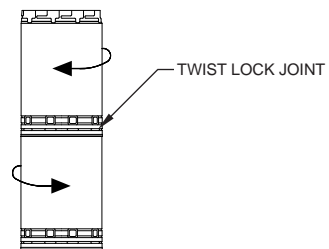

FIG. 3a
6. Install Temp Guard chimney sections starting at the TGCSP. Secure the sections by pushing together and twisting until stop-locked (See **FIG. 3a**). Additional chimney sections may be added to maximum height of 60 feet. At each additional ceiling, a firestop (TGFSa) is required. Insert the TGFSa into the joist area prepared in step 5. Continue this process for each floor level until the area above the attic.